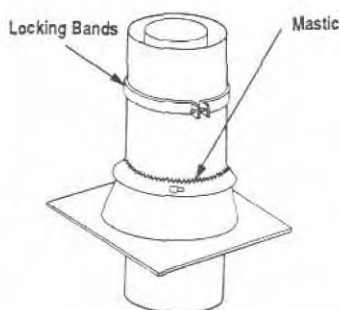

Figure 33
Step 9. Superior locking band, Model 10LB, may be required if the chimney extends too high above the roof flashing. As a general rule, if the chimney extends more than 6' (1.8m) above the roof/flashing, the use of locking bands is advisable to strengthen the chimney joints. Align the locking band at the pipe joint. Locking bands wrap around pipe joints equally covering the joints of both pipe sections. Use nut provided and TIGHTEN snugly. Do not over tighten as this might damage chimney section (Figure 33).